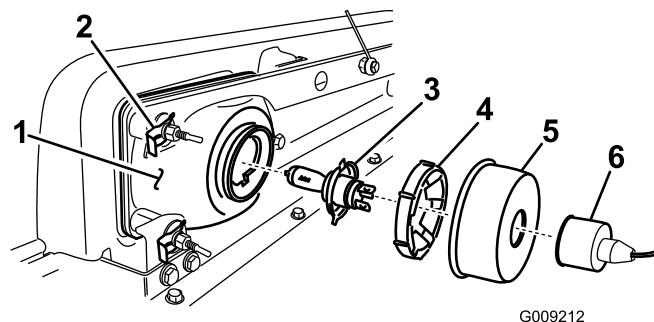

Figure 31
2. Remove the protective rubber boot (Figure 31).
- Remove the headlight assembly by moving it forward through the opening in the front bumper (Figure 31).
- Install the new headlight through the opening in the bumper (Figure 31). Ensure the adjustment posts are lined up with the holes in the mounting bracket in the bumper.